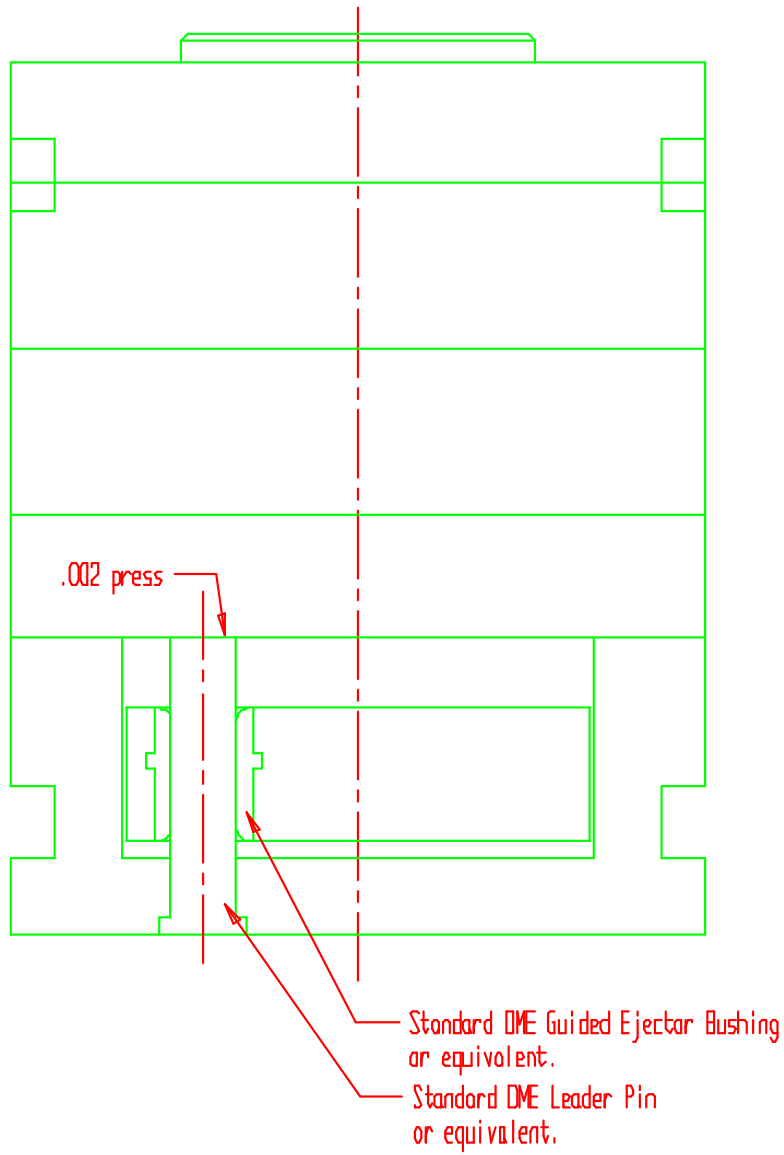

figure 4-6
- 4.5.4 Guided ejection, when needed, to be installed per figure 4-6. Four guide pins and bushings required.